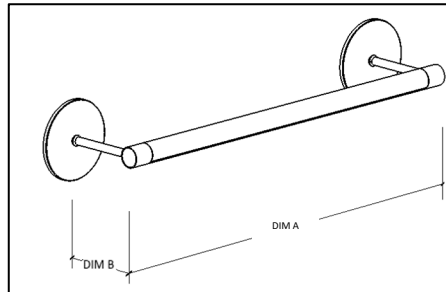

FIG. 10- VIEW SHOWING MOUNTING INFORMATION
1. Mark location for the anchor according to the table according to the MOUNTING INFORMATION TABLE below and as shown in FIG. 10.